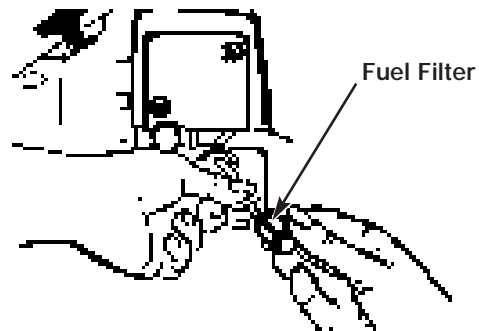

Fig. 23
2. Pull the filter off with a twisting motion (Fig. 23).